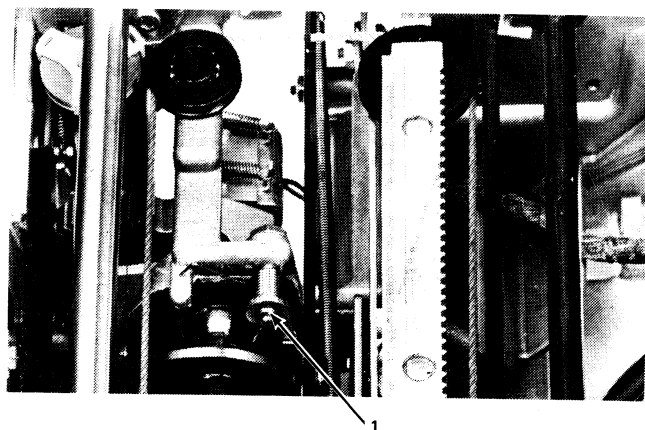

Figure 4-8. Belt Replacement (Top of Printer)
5. Remove the cycle clutch check pawl and spring (No. 1, Figure 4-8).